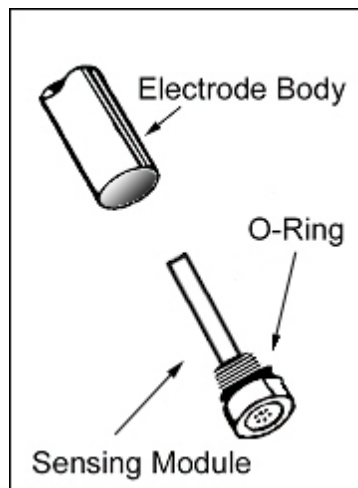

Figure 4: replacing the Sensing Module
1. The AC019 sensing element comes premounted on the end of the electrode with a protective bottle, but can be removed by unscrewing the electrode end. **Caution: Do not touch the PVC membrane with your fingers or over tighten the sensing element** (see Figure 4)